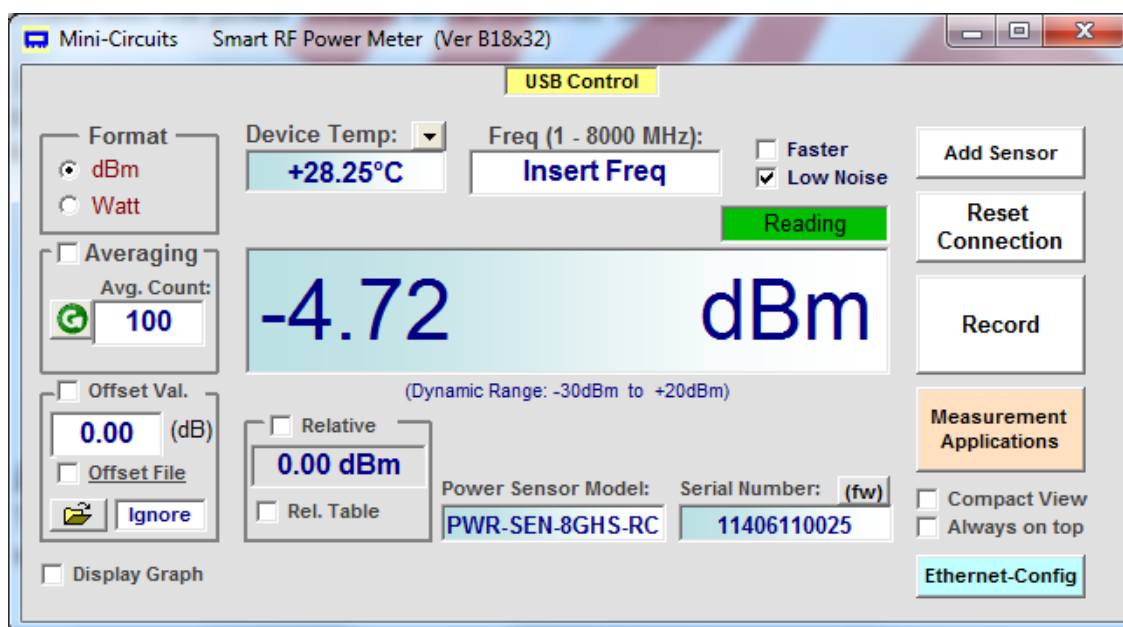

Figure 3.3: PWR Main Screen
The main screen provides a simple and easy-to-use interface for measuring RF power with the PWR power sensor (See **Fig 3.3**).
3.3.1 Left Side of Screen (Fig. 3.3)
3.3.2 Top Center of Screen (Fig. 3.3)
3.3.3 Bottom Center of Screen (Fig. 3.3)
3.3.4 Right Side of Screen (Fig. 3.3)